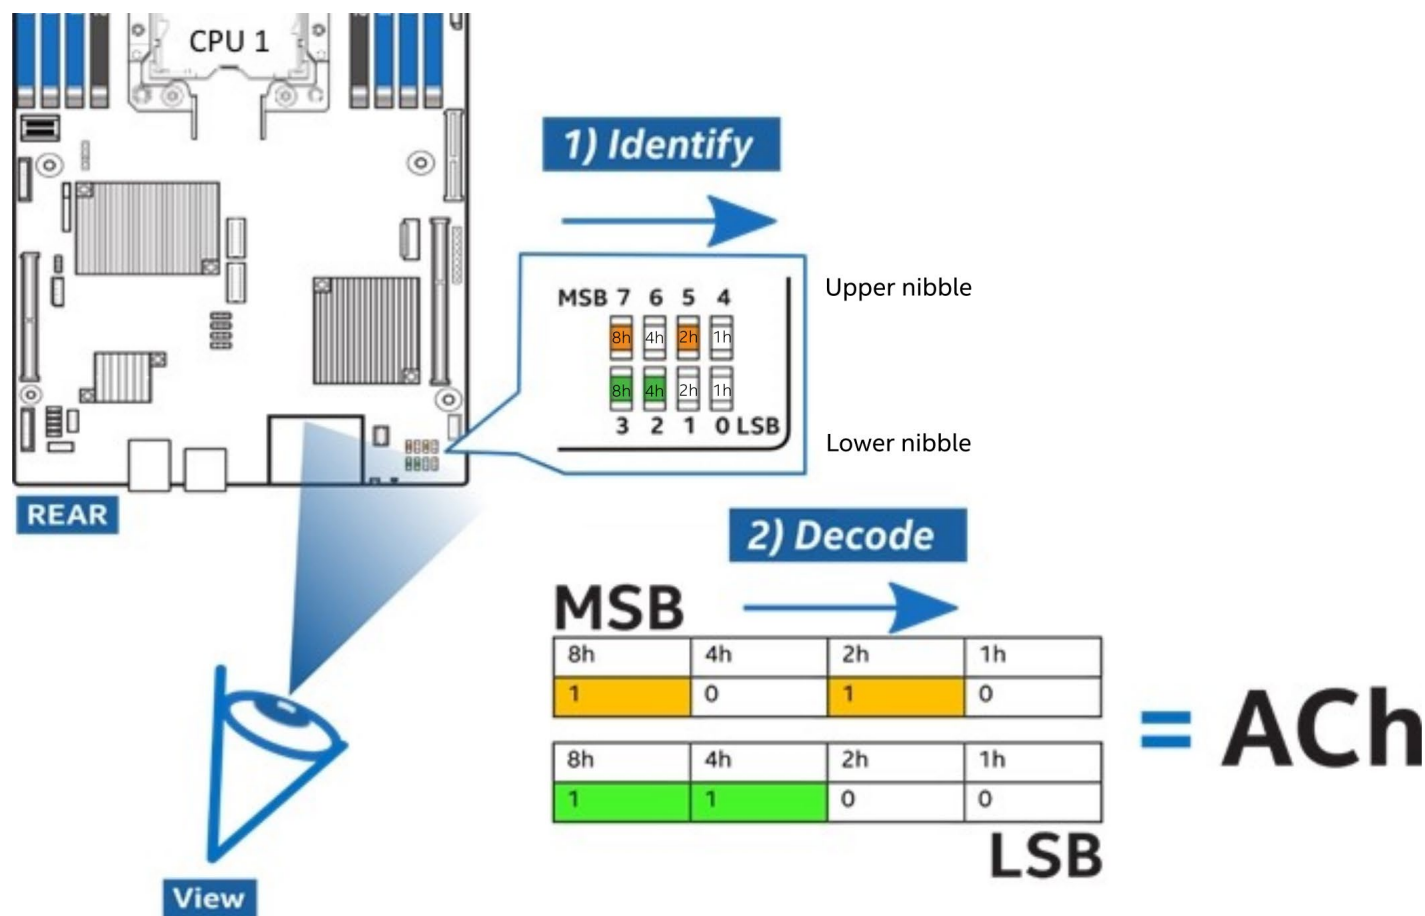

Figure 104. Correct Order Reading POST Diagnostic Codes
**NOTE:** When facing the back of the system, all POST Diagnostic codes are read from left to right starting from MSB to LSB in given numerical order (7-6-5-4-3-2-1-0) as show on Figure 104. Failing to follow this instruction will result in decoding the LEDs incorrectly.